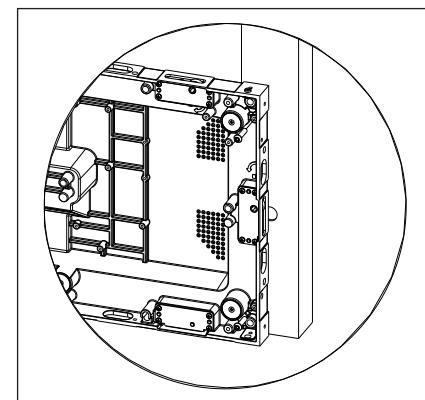

Figure 19: Tighten Jacking Hardware
- Tighten the jacking hardware next to the existing panel until the panel is firmly seated against the tube. Refer to **Figure 19**. Tighten the remaining jacking hardware until it contacts the tubes.